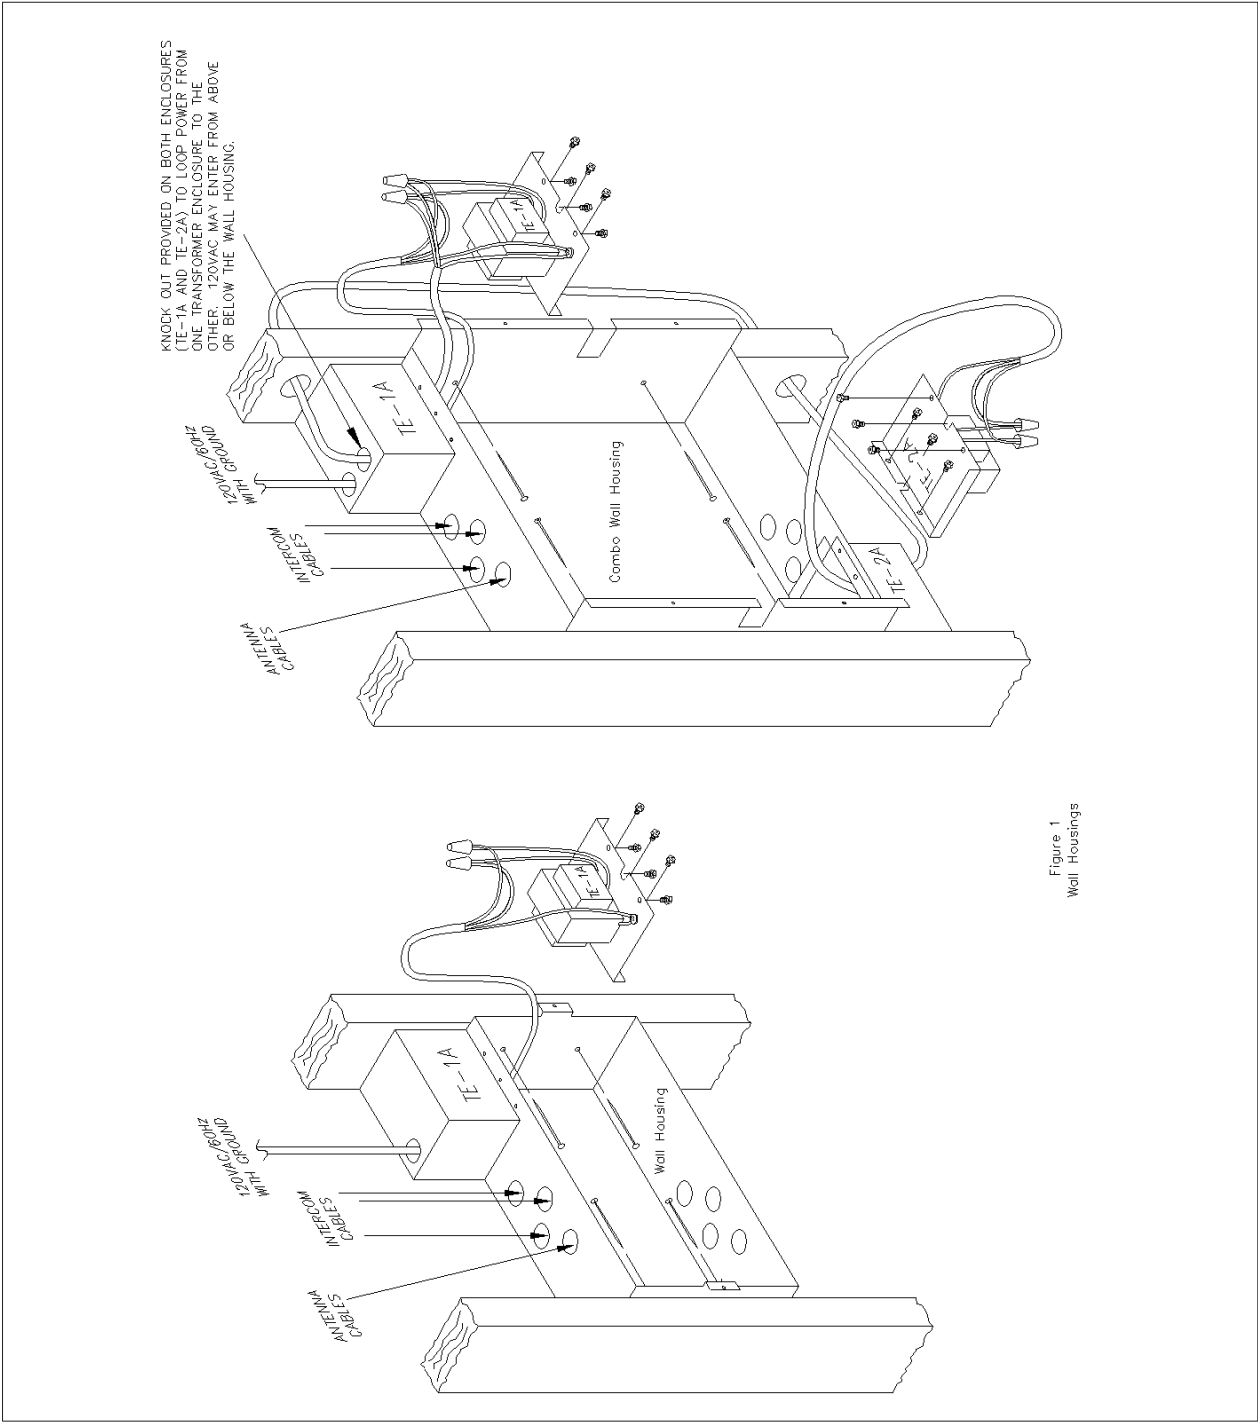

Figure 1
1. With the back flush with the back of the wall studs, nail the wall housing in a level position with the bottom about 52 inches above the floor for single wall housings and about 45 inches for combo wall housings (Fig. 1). **RETROFIT:** Cut an opening between wall studs for the following applications.
7. Using a minimum 14AWG cable w/ground, a qualified electrician should make the primary electrical connection to the transformer assembly contained in the top of the master unit wall housing (Fig. 1). **FOLLOW ALL LOCAL CODES.**